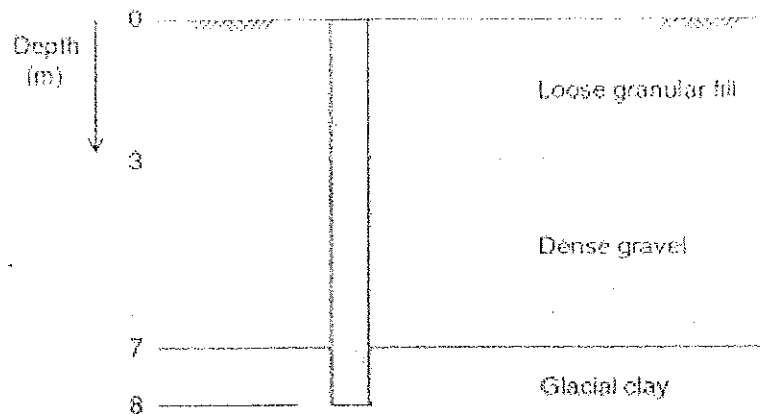

Figure Q6
- (d). A 500mm diameter cast-in-situ concrete bored pile is to be formed in the soil profile shown in Figure Q6. Properties of different soil types shown in the figure are;